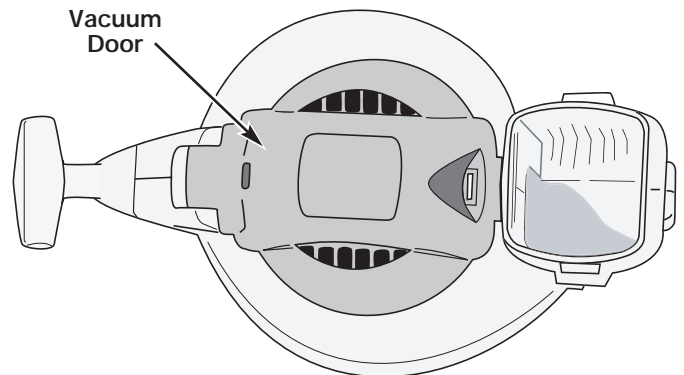

Fig. 3
3. Flip the unit so it is standing straight up on the muffler cover. The front of the unit and the vacuum door should face you (Fig. 3).